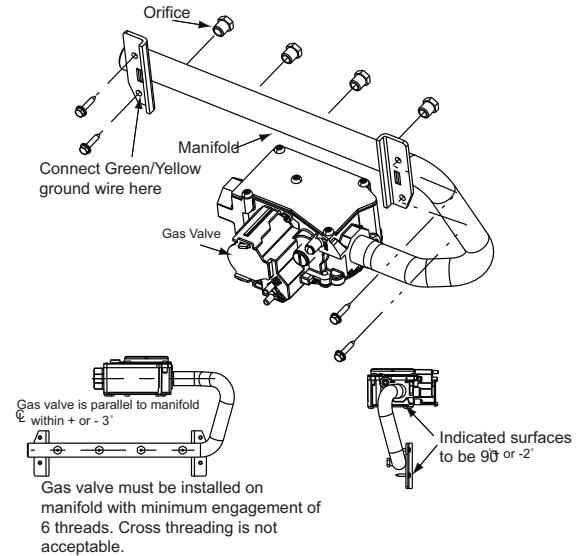

Fig. 21 - Two-Stage Gas Valve
3. Support the manifold and remove the 4 screws that secure the manifold assembly to the burner box and set aside. See Fig. 21.